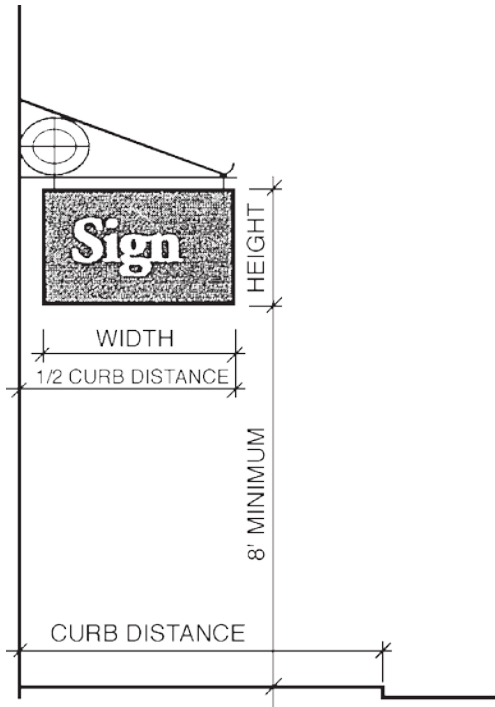

Figure-9
a. Projecting signs may not project over public property more than 1/2 the distance from the building to the curb. A sign may not project over the street line. Projecting signs must be a minimum of eight (8) feet above the ground and must be no larger in size than 1 square foot for each linear foot of the side of the building to which the sign is attached, not to exceed 40 square feet per face. (See Figure-9)